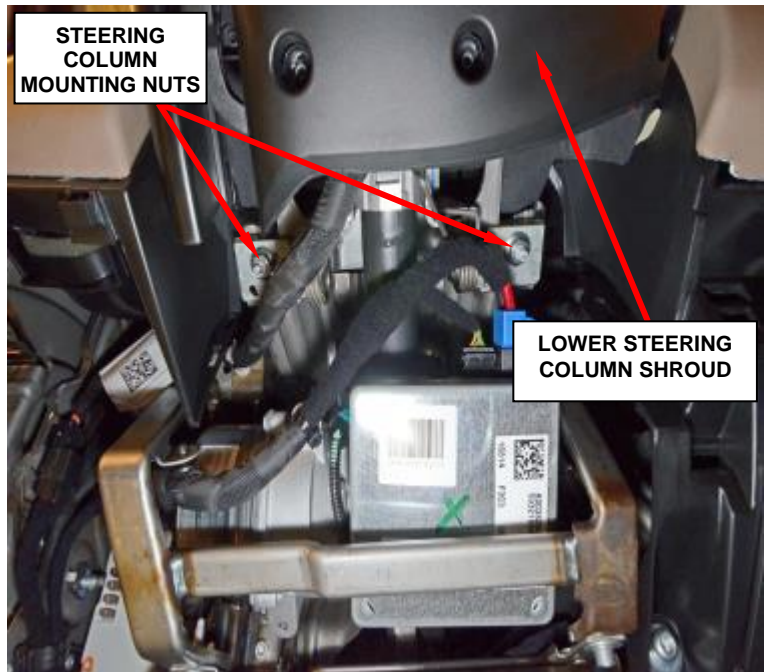

Figure 9 – Steering Column Mounting Nuts
7. Remove and save the two lower steering column mounting nuts (Figure 9).
h. Remove and save the two mounting nuts attaching the steering column to the instrument panel (Figure 9).